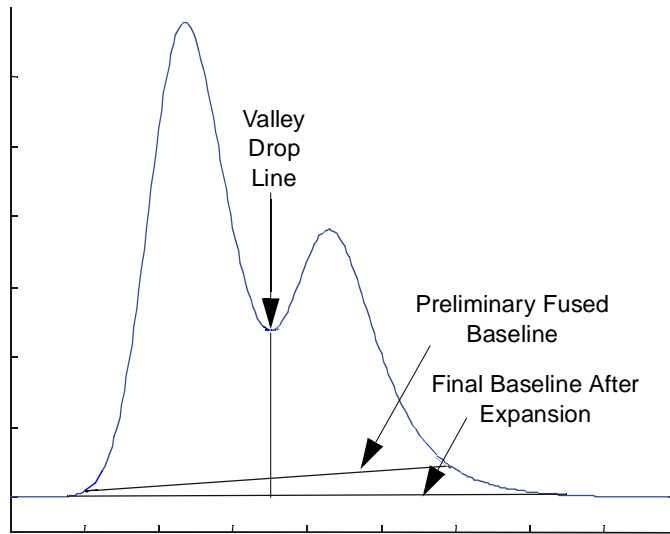

Figure 2-12 Cluster Baselines
3. Replaces the two overlapped preliminary baselines with one fused baseline that starts at the beginning of the first preliminary baseline and ends at the last preliminary baseline on the cluster (Figure 2-12).
After a baseline is fused, the slope difference thresholds are tested at the beginning and end of the cluster baseline (Figure 2-12). If the slope difference thresholds have not been met, ApexTrack: